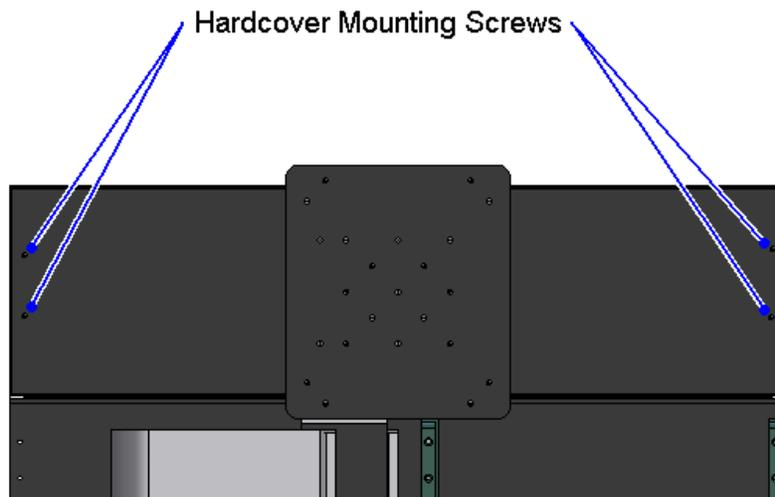

Figure 4-1: Top view of ALS20000 / ALS25000 Stage Showing Hardcover Mounting Screws
2. Remove the screws on the edges of the hard cover (as shown in Figure 4-1) and slide it out from under the stage.